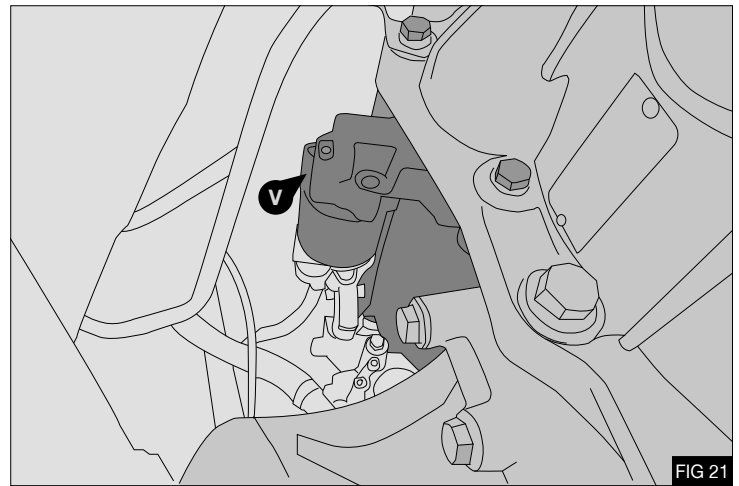

FIG 21
17. Torque bolt (14) to 35Nm / 26lbft
19. Remove 3x fasteners securing the engine starter motor (V).
- Fig 21